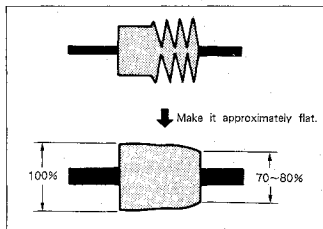

Fig. 7-76.
- 3) Rotate the No.5 guide clockwise to make the RF waveform on the exit side approximately flat. (Fig. 7-76.)